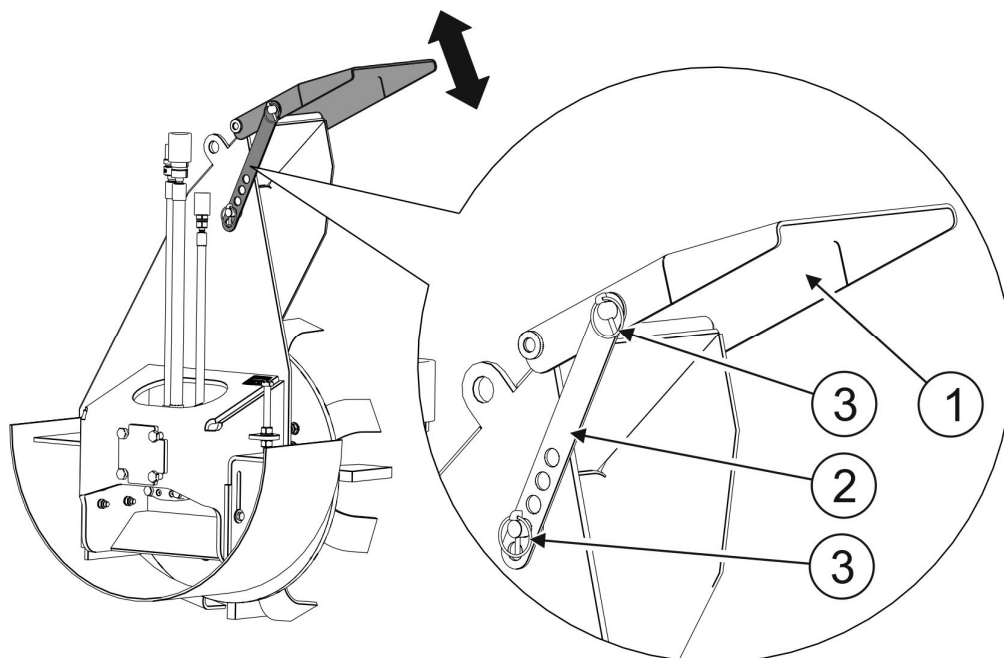

FIGURE 4.6 Adjust the ejected material deflector
(1) - adjustable deflector; (2) - deflector bracket with holes; (3) - cotter pins.
To adjust how high the material is ejected onto the ditch slope, adjust the deflector (1) (FIGURE 4.6). In order to do this:
- remove the cotter pins (3) securing the deflector bracket (2);
- remove the bracket (2) from the bolts and determine the appropriate deflector (1) position by fixing the bracket on the bolt in one of the five available holes;
- secure the bracket (2) with the cotter pins (3).